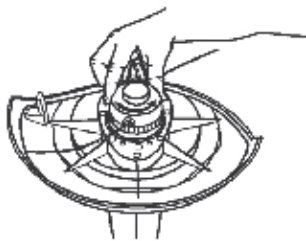

FIG. 1
1. Remove the spool from the string trimmer. To do this, hold the channel portion with one hand, pressing down and turning the spool head to unlock it with the other hand (Fig. 1 and 2).